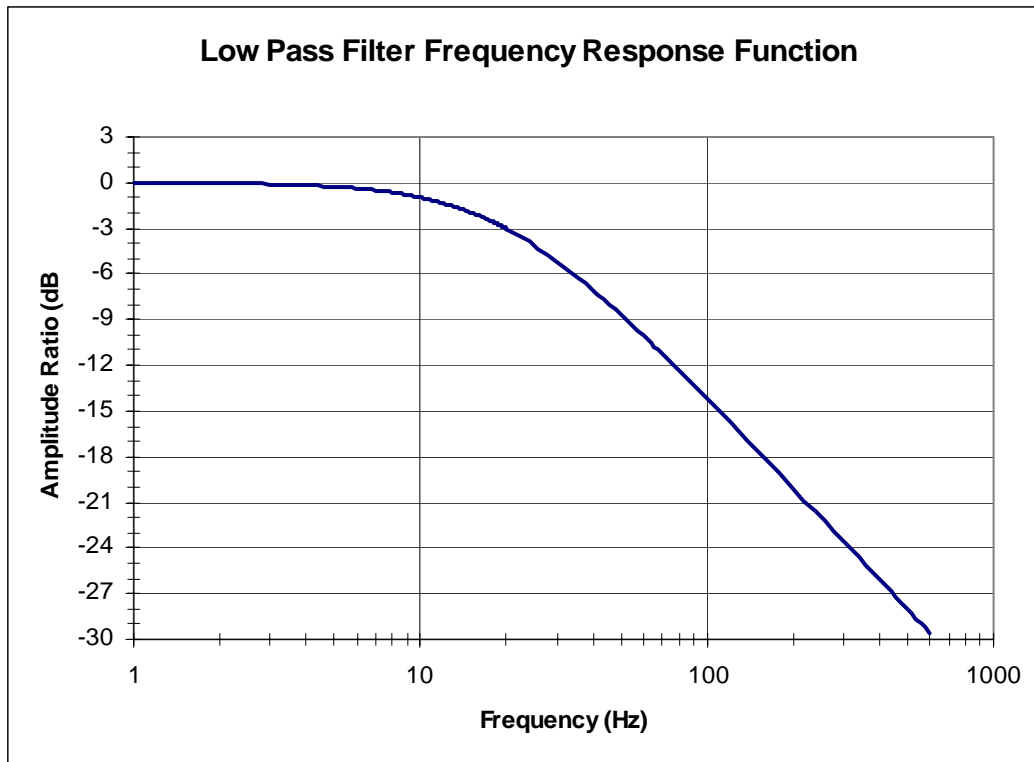

Figure 1. Low pass filter Magnitude Ratio versus Frequency plot.
- 17) The cut off frequency, f_c , of a filter with the response function plotted in Figure 1 is approximately